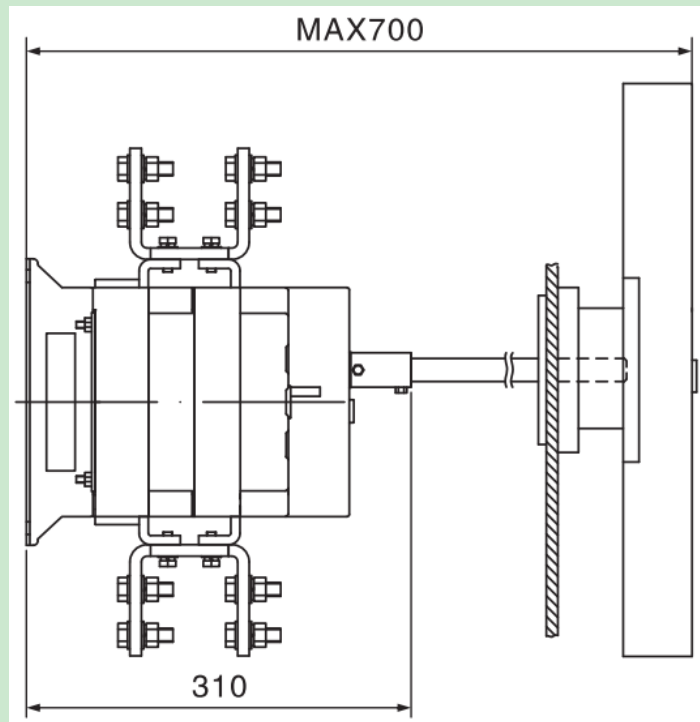

Fig. 18: Out-of-cabinet handle installation diagram
6.13 The out-of-cabinet operating handle sees Fig. 18